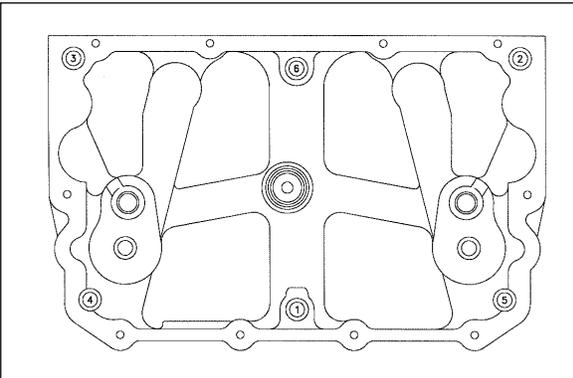

Figure 3-3
5. Tighten the capscrews to 35 lbft (48 N*m) in sequence as shown in Figure 3-3 then re-torque to 70lbft (95N*m).